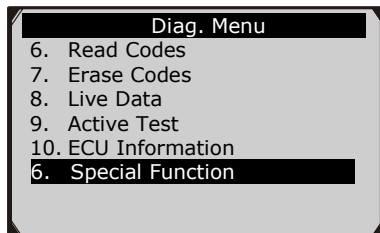

Figure 8.20
- 1) In the **Diagnostic Menu** (Figure 8.20), use the **UP/DOWN** button to select **Special Function** to do the ABS test. The scan tool displays as below.
- 1) In the **Diagnostic Menu** (Figure 8.20), use the **UP/DOWN** button to select **Active Test** to do the actuator test. The scan tool displays as below.